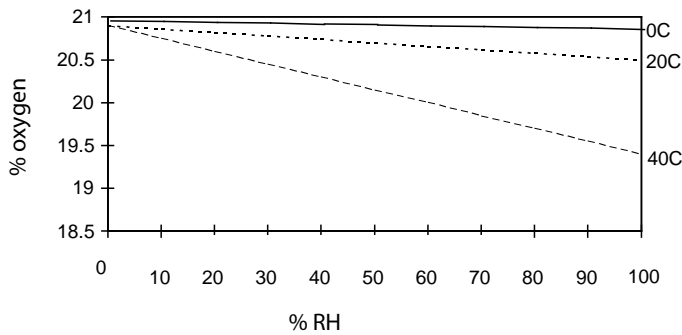

Fig. 4, humidity effects
The concentration of oxygen varies directly with changes in the relative humidity (RH) of the sample gas. That means that the output of the EC250 sensor is directly proportional to changes in the RH of a sampled gas. Figure 4 shows the change in concentration of oxygen in ambient air for the range of 0-100% RH at different temperatures. The change in the oxygen concentration is directly related to the dilution effect of water vapor.